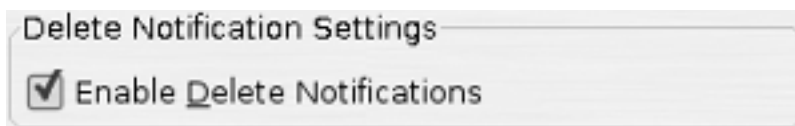

Figure 11.8. Delete Notification Settings
2. Under the "Delete Notification Settings" section uncheck the checkbox labeled "Enable Delete Notifications" see Figure 11.8, "Delete Notification Settings".